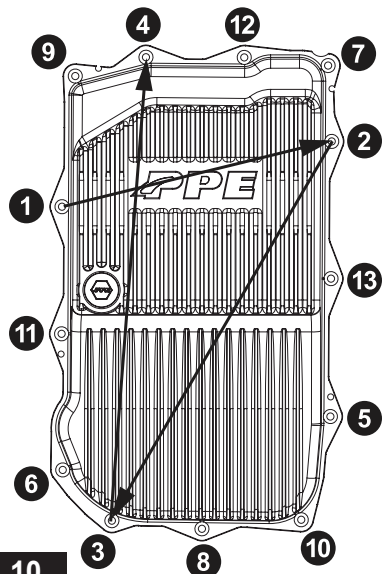

Fig. 10
12. Tighten all bolts to 10 lb-ft in a crossing pattern. **(Fig 10)**